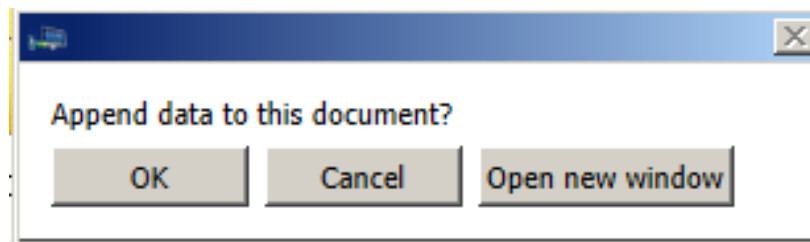

Figure 31
- 3) U2CI will display a window (Figure 31) with the following choices